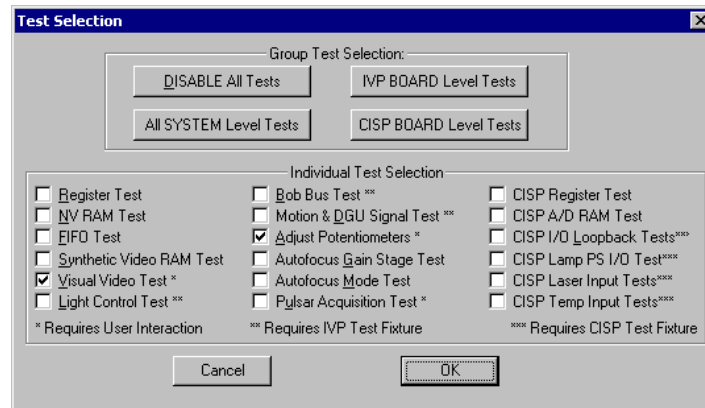

Figure 8-15 IVP Test Selection Window
8. When the Main Screen appears, click on the Select Test button in the toolbar; and observe the Test Selection window; see Figure 8-15.